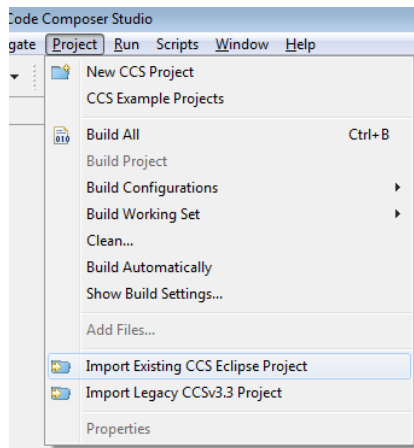

Figure 2 Import Existing CCS Eclipse Project
- Run the CCS program and from the 'Project' tab select 'Import Existing CCS Eclipse Project'. (Figure 2)